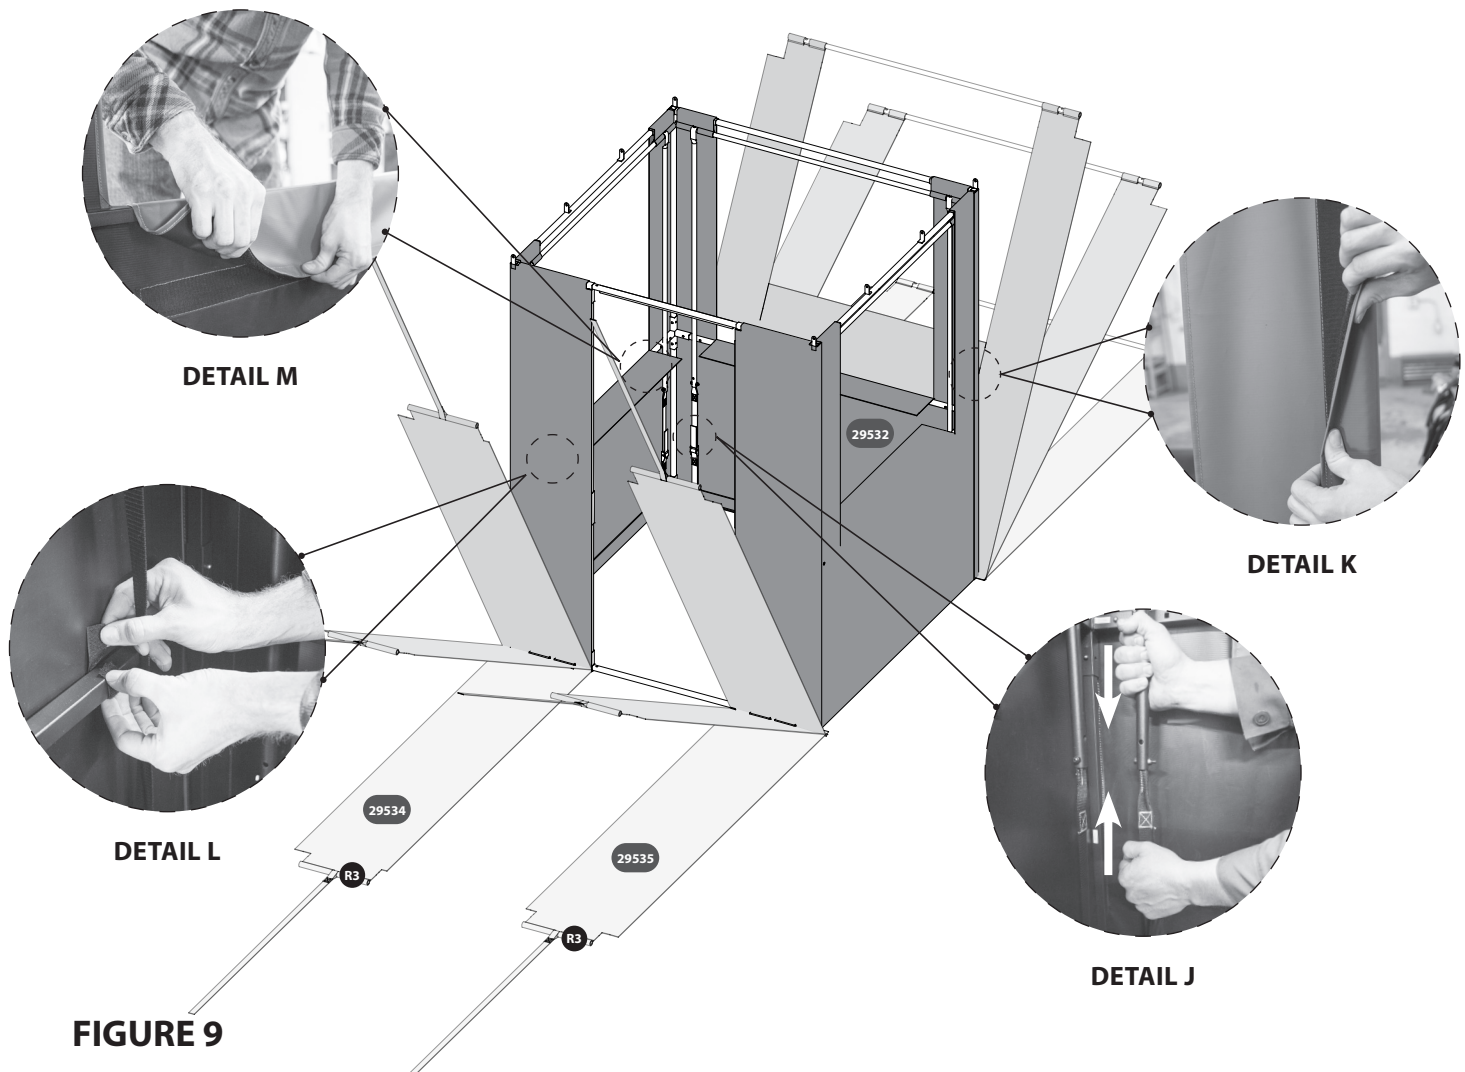

FIGURE 9
20. The final step of the wall panel tensioning is to tension and secure the front wall panels (29534) and (29535). Pull the panels up and flip poles (R3) over the top tier of the frame towards the interior of the blind similar to Step 14. **SEE FIGURE 9.**